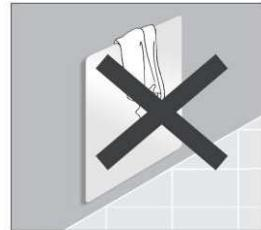

Fig 6
- It is important not to cover the appliance at any time in order to avoid dangerous overheating. (**Fig. 6**)